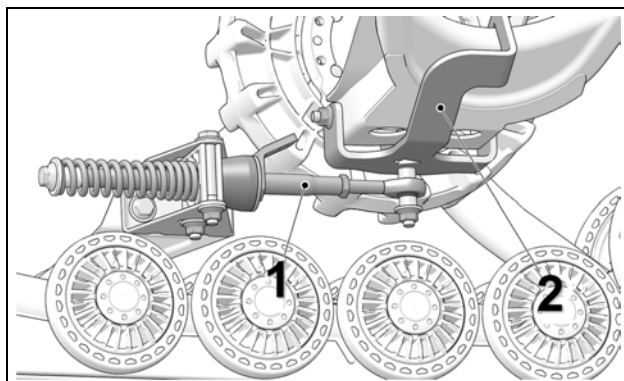

Figure 14
- Stabilizing arm (1) must be attached to rear anchor bracket (2) installed on vehicle. Figure 14.